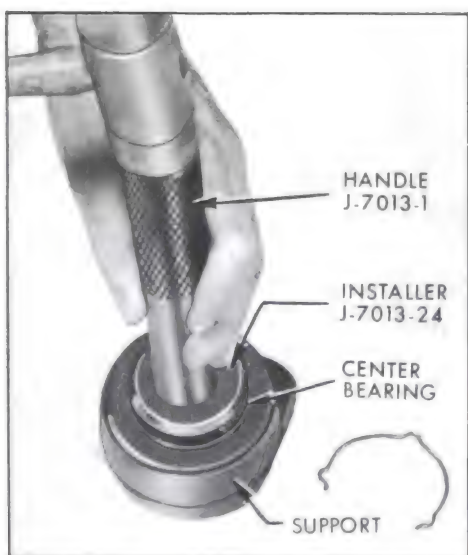

Figure 6-68—Installing Center Bearing Into Support
1. Install new bearing into center bearing support with the aid of Installer J-7013-24 and handle J-7013-1 (Flight Pitch Tools). See Figure 6-68.